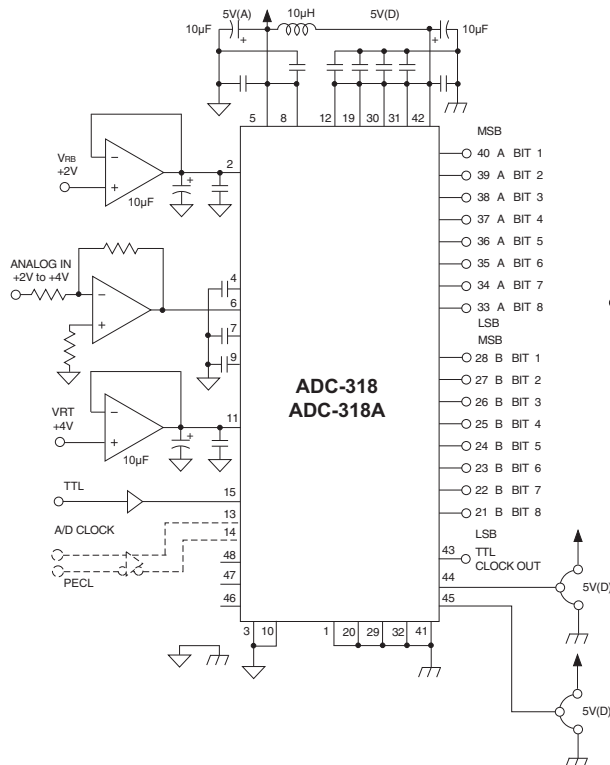

Figure 2-1: One Power Supply Operation (TTL, PECL)
- A/D CLK input and RSET/RSET inputs are TTL or ECL, PECL (Positive ECL) compatible. Pins are provided individually. TTL or PECL is available with +5V single power applied. ECL is available with ±5V dual power applied. The connections of -DVs (pin 1) and DGND3 (pin 12) are different depending on the power supply mode used. Refer to Figures 2-1 and 2-2.